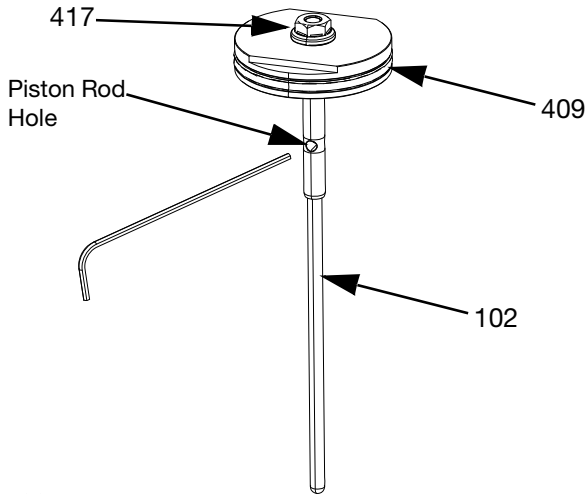

FIG. 20
- b. Place the flats of the piston (409) in a vise with the piston rod facing upward. Un-thread the piston rod (410) from the piston (409).
- c. Inspect the piston (409) and piston rod (410) for damage. Replace if necessary.
7. For valves with tip seal tip assemblies (FIG. 20):
- a. Place an Allen key through the hole in the tip assembly (102) and unthread the nut (417) using a 7 mm socket or wrench.
- b. Place the flats of the piston (409) in a vise with the piston rod facing upward. Un-thread the tip assembly (102) from the piston (409).
- c. Inspect the piston (409) and tip assembly (102) for damage. Replace if necessary.